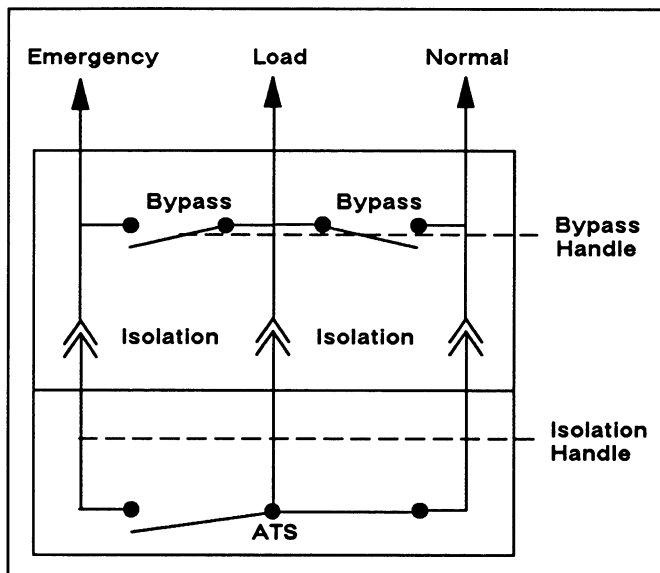

Figure 25. Automatic Position.
8. Turn the Bypass Handle to the AUTO position (see Figure 25.).